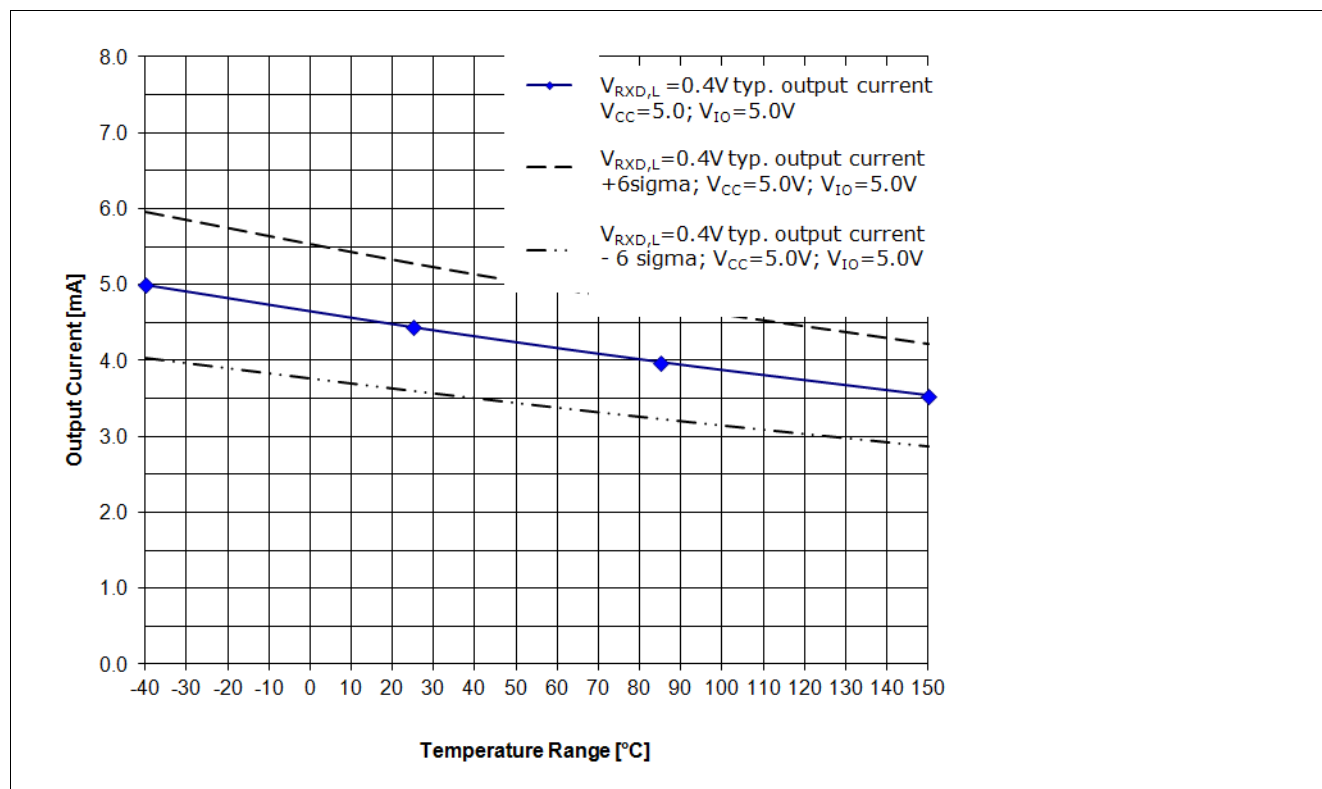
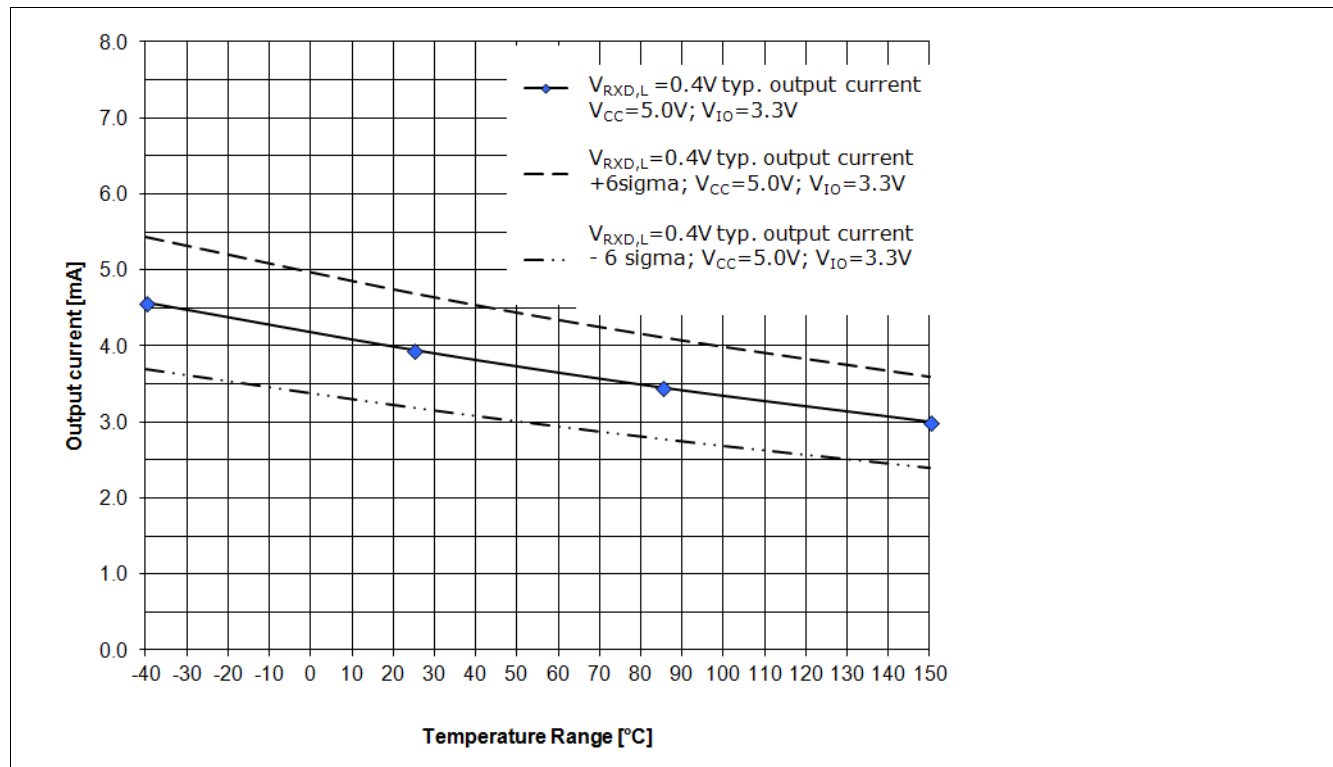

Figure 13 RxD Output driver capability for a logical “Low” signal $V_{RxD,L}=0.4\text{ V}$, $V_{CC}=5.0\text{ V}$, $V_{IO}=5.0\text{ V}$ ¹⁾
Figure 14 RxD Output driver capability for a logical "Low" signal $V_{RxD,H} = 0.4V$, $V_{CC} = 5.0V$, $V_{IO} = 3.3V$ ¹⁾
The diagram in Figure 13 and the diagram in Figure 14 show the current capability of the RxD output pin depended on the chip temperature T_J . Figure 13 shows the current capability of the RxD output pin at a V_{IO} power supply of 5.0 V and Figure 14 shows the current capability of the RxD output pin at a V_{IO} power supply of 3.3 V.
- The curve “VRxD,H = 0.4 V; **typ. output current**; VCC = 5.0 V; VIO = 5.0 V;” displays the typical output current at the RxD output pin of the TLE8250GVIO (see Figure 13).
- The curve “VRxD,H = 0.4 V; **typ. output current + 6 sigma**; VCC = 5.0 V; VIO = 5.0 V;” displays the expected maximum value of the output current at the RxD output pin (see Figure 13).
- The curve “VRxD,H = 0.4 V; **typ. output current - 6 sigma**; VCC = 5.0 V; VIO = 5.0 V;” displays the expected minimum value of the output current at the RxD output pin (see Figure 13).
- The curve “VRxD,H = 0.4 V; **typ. output current**; VCC = 5.0 V; VIO = 3.3 V;” displays the typical output current at the RxD output pin of the TLE8250GVIO (see Figure 14).
- The curve “VRxD,H = 0.4 V; **typ. output current + 6 sigma**; VCC = 5.0 V; VIO = 3.3 V;” displays the expected maximum value of the output current at the RxD output pin (see Figure 14).
- The curve “VRxD,H = 0.4 V; **typ. output current - 6 sigma**; VCC = 5.0 V; VIO = 3.3 V;” displays the expected minimum value of the output current at the RxD output pin (see Figure 14).